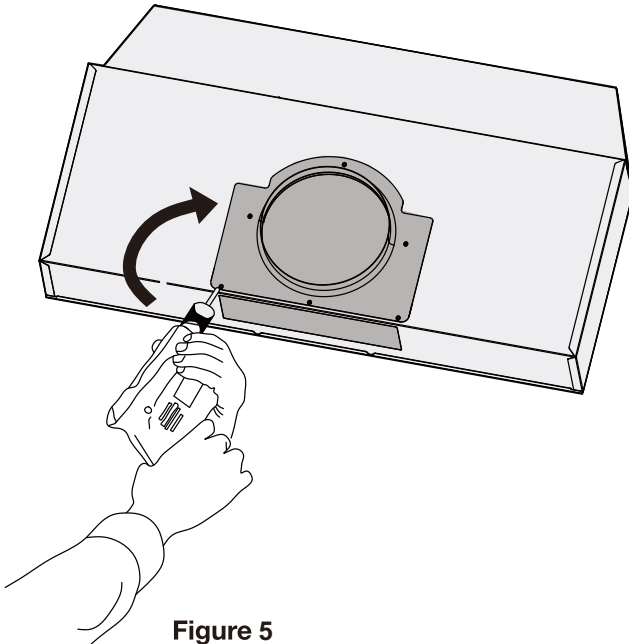

Figure 5
- Using the supplied screws, attach the round vent/damper on either the top of the range hood (see Figure 5).